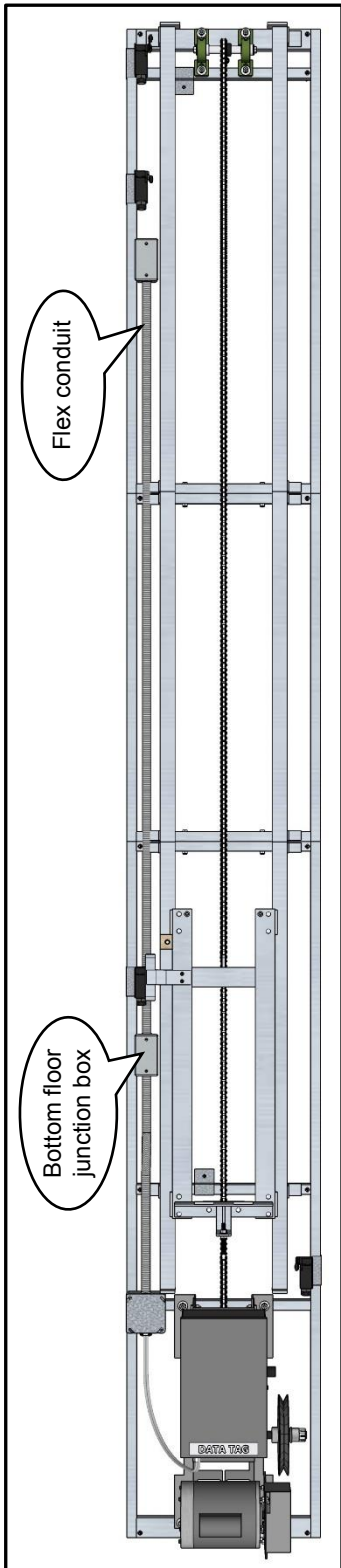

Figure 10
- Lower flex conduit from top floor and connect to junction box at bottom floor. (see Figures 10 & 11)